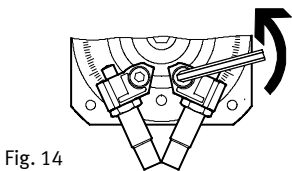

Fig. 14
4. Unscrew the locking screws for the shock absorber retainers (Fig. 14). To shift the shock absorber retainers, it is sufficient to slacken the locking screws until they can just barely be shifted.